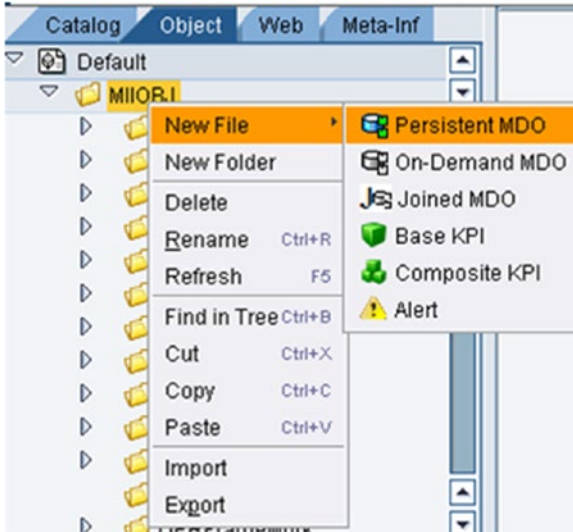

Figure 7-1. Creating a persistent MDO
4. Select New File ► Persistent MDO, as shown in Figure 7-1.